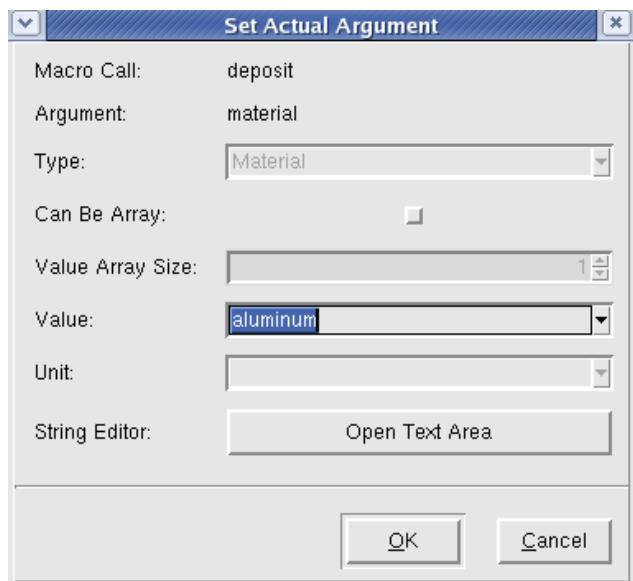
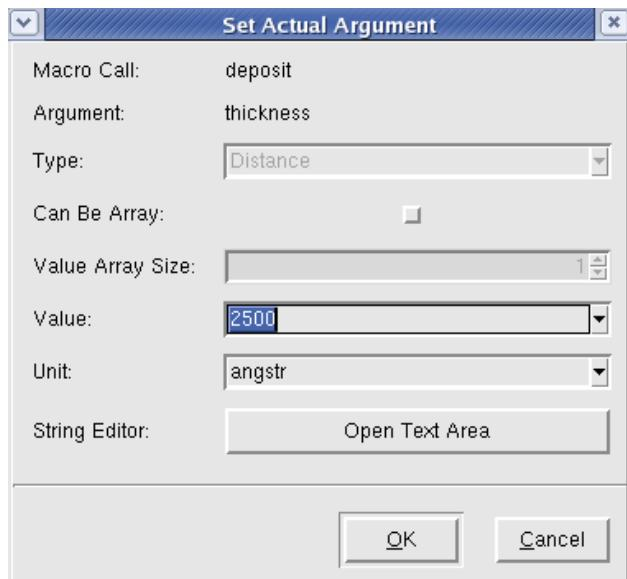

Figure 83: Deposit AL
Figure 84: Setting AL thickness.
19. Add an Aluminum Layer by adding a deposit step to the last etch step and setting the material to AL (Figure 83), and the thickness to 2500 Angstroms (Figure 84). Translate (Figure 85). Check and save the flow and run in sprocess. View the results (Figure 86).